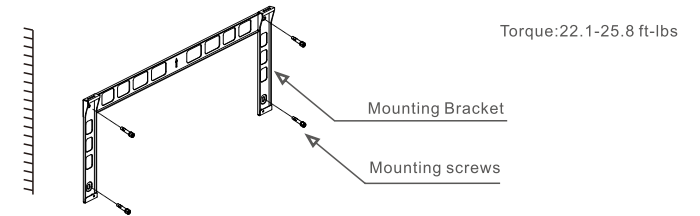
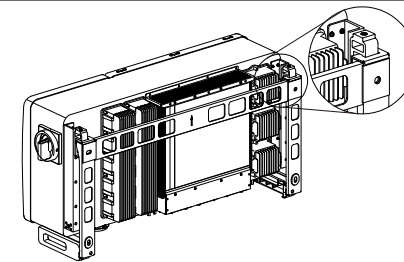

Figure 3.6 Inverter wall mounting
Figure 3.7 Install the inverter
Refer to figure 3.6 and figure 3.7 Inverter shall be mounted vertically.
1. Refer to Figure 3.6, drill holes for mounting screws based on the hole diameter of bracket using a precision drill keeping the drill perpendicular to the wall. Max depth is 3.54in.
2. Make sure the bracket is horizontal. And the mounting holes (in Figure 3.6) are marked correctly. Drill the holes into wall at your marks.